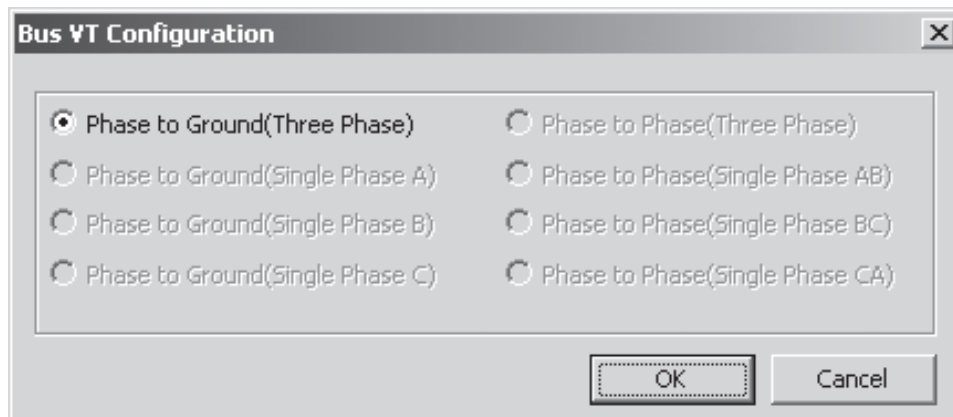

Figure 4-23 Bus VT Configuration Selection Screen
7. Select the **Bus VT Configuration** button. ISScom displays the Bus VT Configuration selection screen (Figure 4-23).